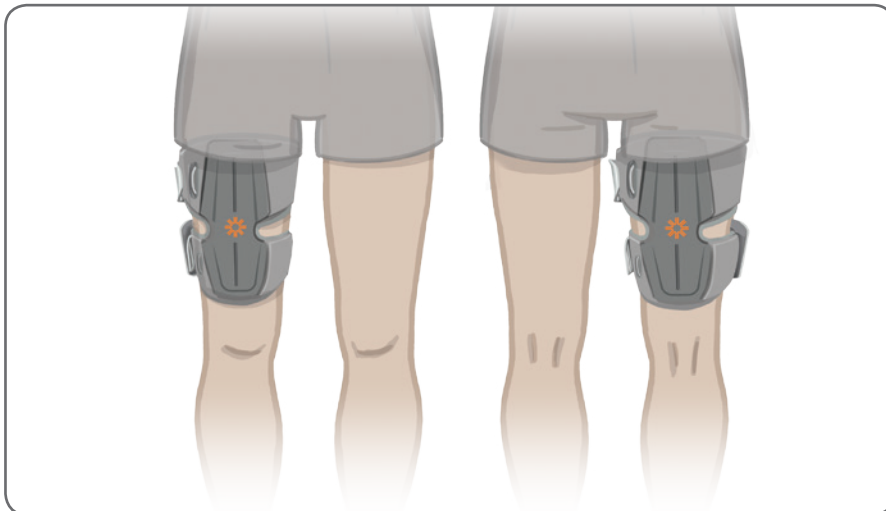

Figure 6-16: Correct Position of the Thigh FS Cuff
4. Center the bridge on the midline of the thigh. See Figure 6-16.
5. Fasten the straps by inserting the strap buckle into the hook attached to the thigh FS Cuff panels. See Figure 6-16. If needed, tighten the strap tension by adjusting the strap fasteners.